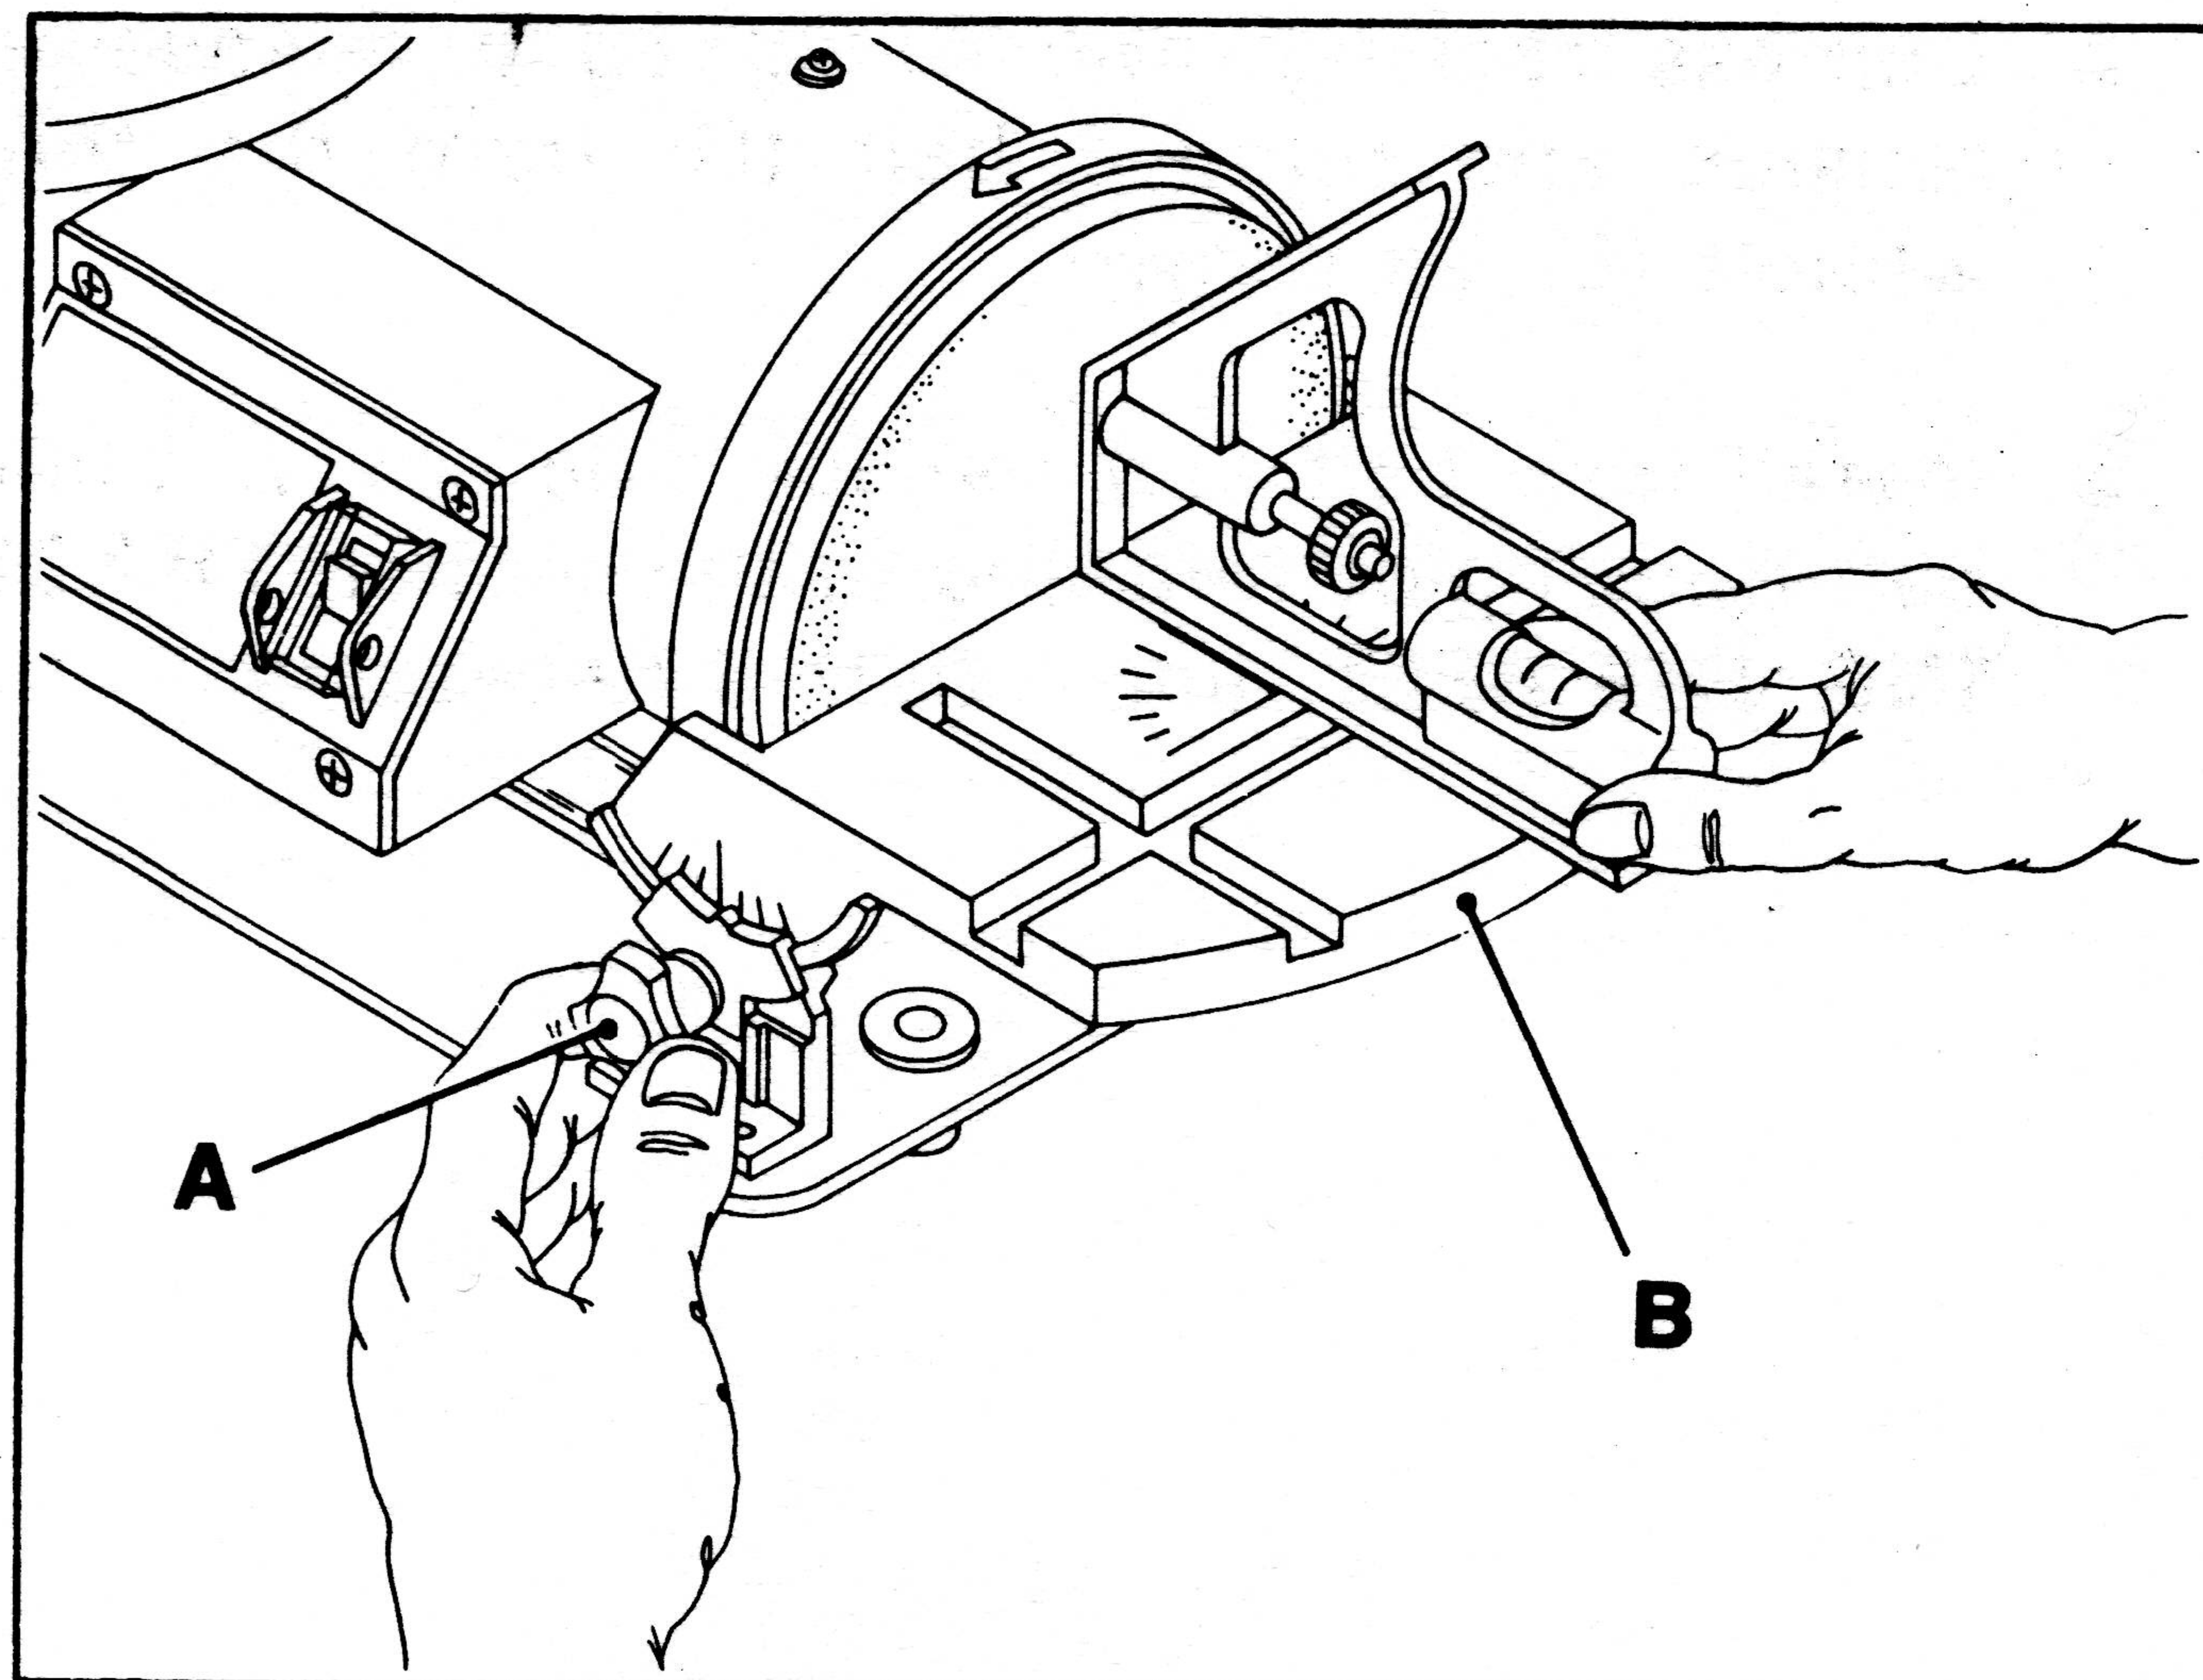

Fig. 15
1. Place one of the square on the table with the other end against the sanding disc as shown in Fig. 15 and check to see if the table is 90 degrees to the disc.
2. If the table is not 90 degrees to the disc, loosen the table adjustment knobs (A) at each end of table and move the table (B) the desired amount. Retighten adjustment knobs (A) and recheck for squareness. Any desired angle can be set in the same way using a protractor instead of a square.